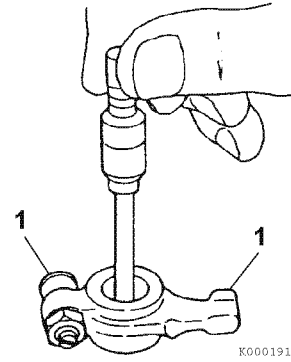

Figure 6-15
Use a test indicator and micrometer to determine if the inside diameter of all the rocker arm support brackets and the rocker arms (**Figure 6-15**) are within the specified limits. See *Rocker Arm and Shaft* on page 6-6 for the service limit.
Inspect the contact areas (**Figure 6-15, (1)**) for excessive wear or damage.